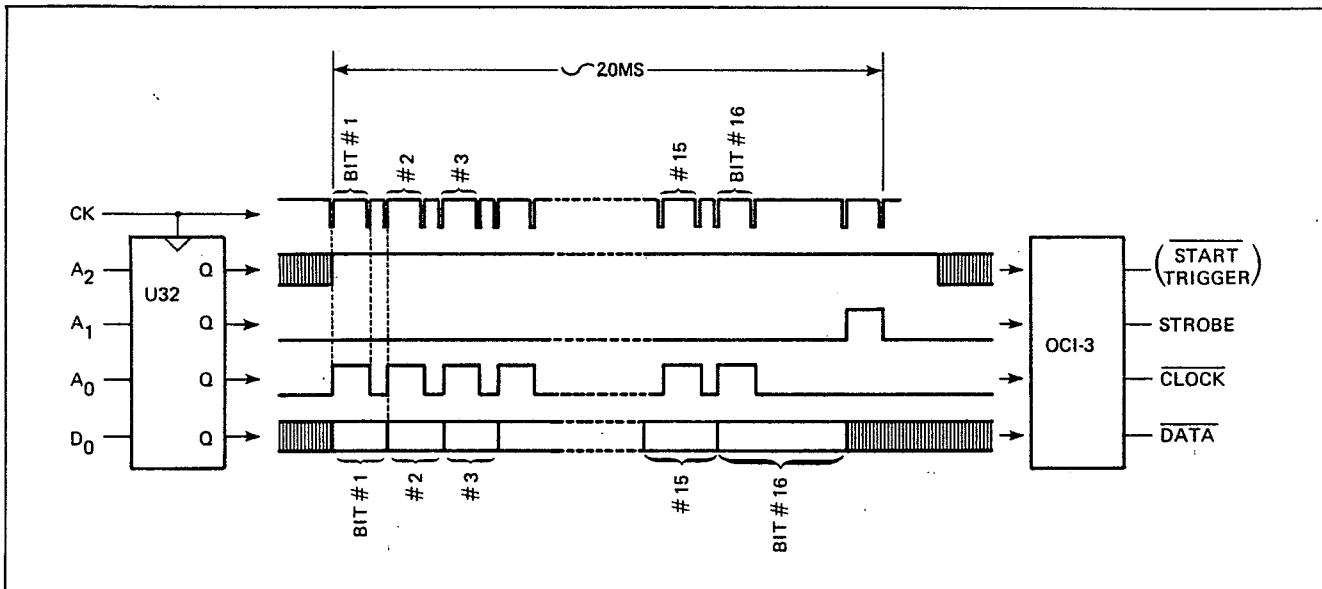

Figure 4.16 - Register Load Simplified Timing Diagram
4.5.8.5.1 The DMM's function, range and/or integrate time can be modified as a result of keyboard inputs, GPIB commands, or autorange. When this occurs, a new relay drive bit pattern is determined by the  $\mu\text{P}$ . This pattern is then shifted across guard one bit at a time. The timing of the drive bit pattern is shown in Figure 4-16, the Register Load Timing diagram.